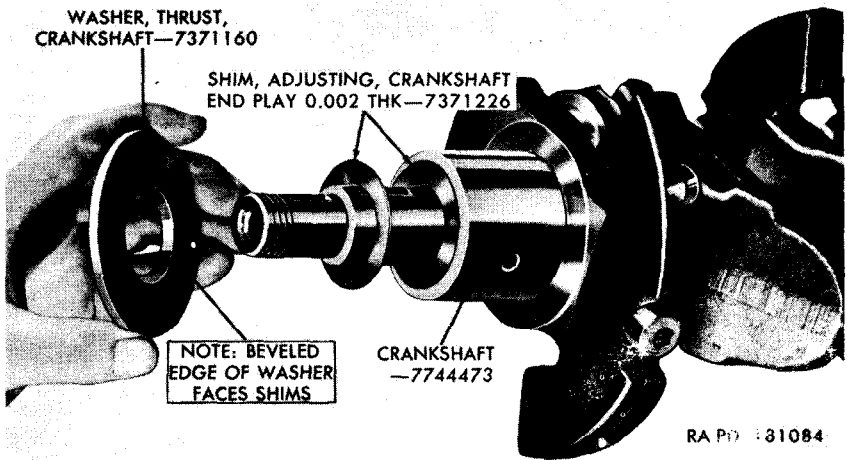
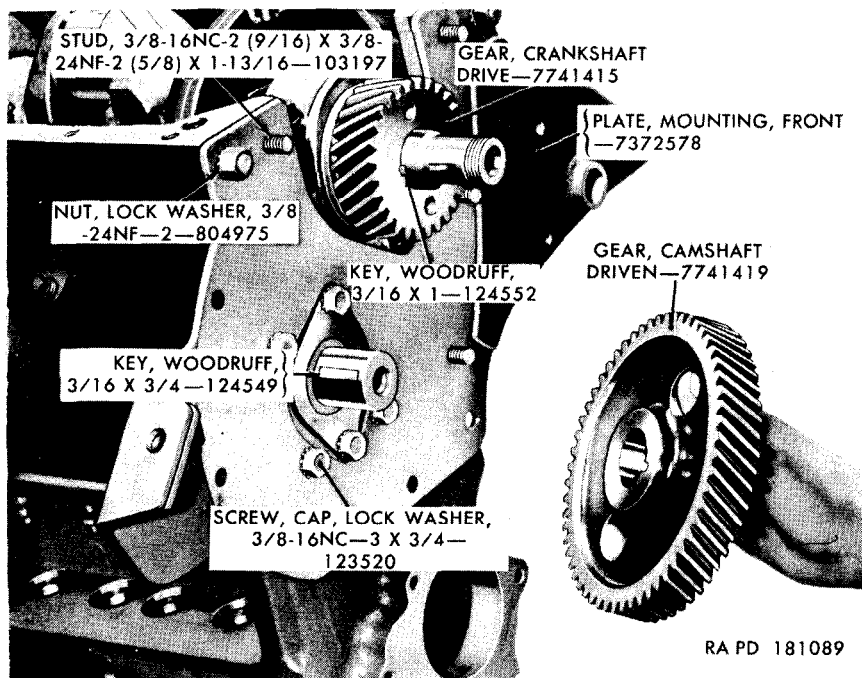
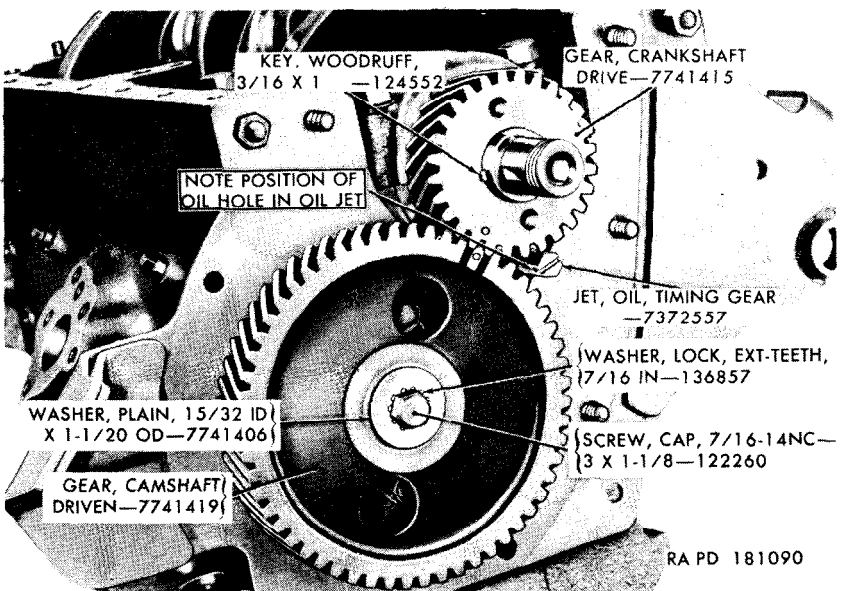

Figure 73. Crankshaft end play adjusting shims and thrust washer.
Figure 78. Installing camshaft driven gear.
Figure 79. Crankshaft drive and camshaft driven gears (timing gears).
b. Stand the crankshaft upright on the rear (flanged) end on a clean solid surface. Install three 0.002-inch crankshaft end play adjusting shims (fig. 73) and the crankshaft thrust washer on the front end of the crankshaft. Install the thrust washer so that the inner beveled edge faces the rear end of the crankshaft.
c. Install the $\frac{3}{16}$ x 1 crankshaft drive gear woodruff key (fig. 78) in the longer of the two key slots on the front end of the crankshaft. Install the crankshaft drive gear on the front end of the crankshaft with the timing mark "0" facing out, away from the cylinder block. Align the keyway in the gear, with the key installed in the shaft, and drive or press the gear onto the crankshaft and firmly against the thrust washer.
b. Coat both sides of the mounting plate to cylinder block gasket with liquid type gasket cement and install the gasket over the mounting plate studs. Install the front mounting plate and secure in place with two $\frac{3}{8}$ -24NF-2 lock washer nuts (fig. 78) and three $\frac{3}{8}$ -16NC-3 x $\frac{3}{4}$ lock washer cap screws. Coat the threads of cap screws with plastic type gasket cement before installing.
a. Install the $\frac{3}{16}$ x $\frac{3}{4}$ camshaft driven gear woodruff key (fig. 78) in the key slot in front end of the camshaft.
b. With the woodruff key in the camshaft and the key slot in the camshaft driven gear (fig. 78) in alignment, start the camshaft driven gear onto the camshaft with the wide hub of the gear facing out, away from the cylinder block. Turn the camshaft or the crankshaft as necessary to bring the timing marks "0" (figs. 73 and 80) in both gears together. Slide the $\frac{7}{16}$ -inch external teeth lock washer (fig. 79) and the $\frac{15}{32}$ ID x $1\frac{1}{20}$ OD plain washer onto the $\frac{7}{16}$ -14NC-3 x $1\frac{1}{8}$ cap screw and thread the cap screw into the front end of the camshaft. Tighten the cap screw to 30 to 40 pound-feet torque, pressing the gear onto the front end of the camshaft in the process.
Install the timing gear oil jet (fig. 79) in the tapped hole in front of the cylinder block. Position the oil hole in the side of the oil jet so that it will direct the oil stream against the camshaft driven gear just ahead of the point of its engagement with the crankshaft drive gear.
- (2) Because the tang and the slot are both machined off center, the two shafts can be meshed in only one position.
- (3) Since the position of the distributor shaft determines the "timing" of the engine, and since the position of the distributor shaft is determined by the position of the oil pump shaft, the position of the oil pump shaft with respect to the camshaft is critical.
b. Turn the crankshaft as necessary to bring the timing marks "0" on the crankshaft drive and camshaft driven gears together (fig. 79).